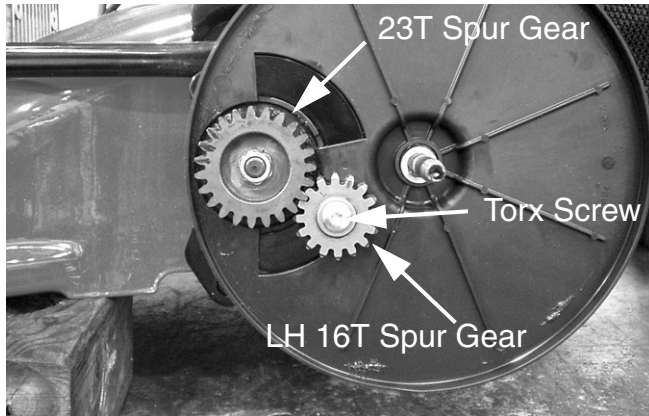

FIGURE 3
6. Using a No. 30 Torx bit, remove the Torx head screw at the end of the transmission's output shaft. Remove the 16T spur gear (mark an "LH" on the gear) and dowel pin. See Figure 3.